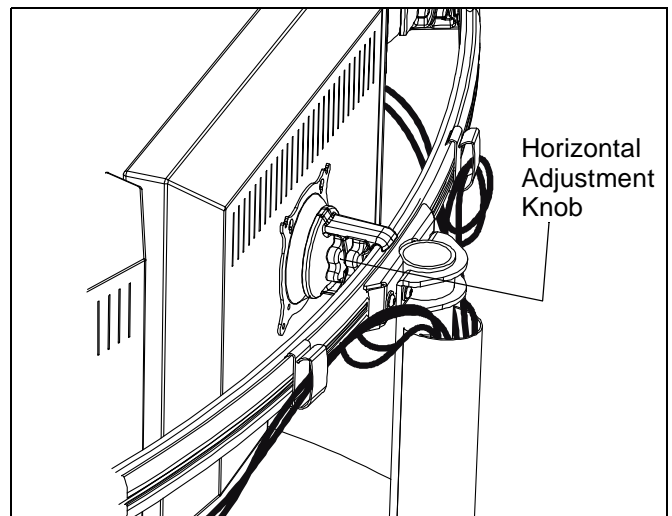

Figure 15
1. Loosen Centris bracket rear adjustment knob (See Figure 15).